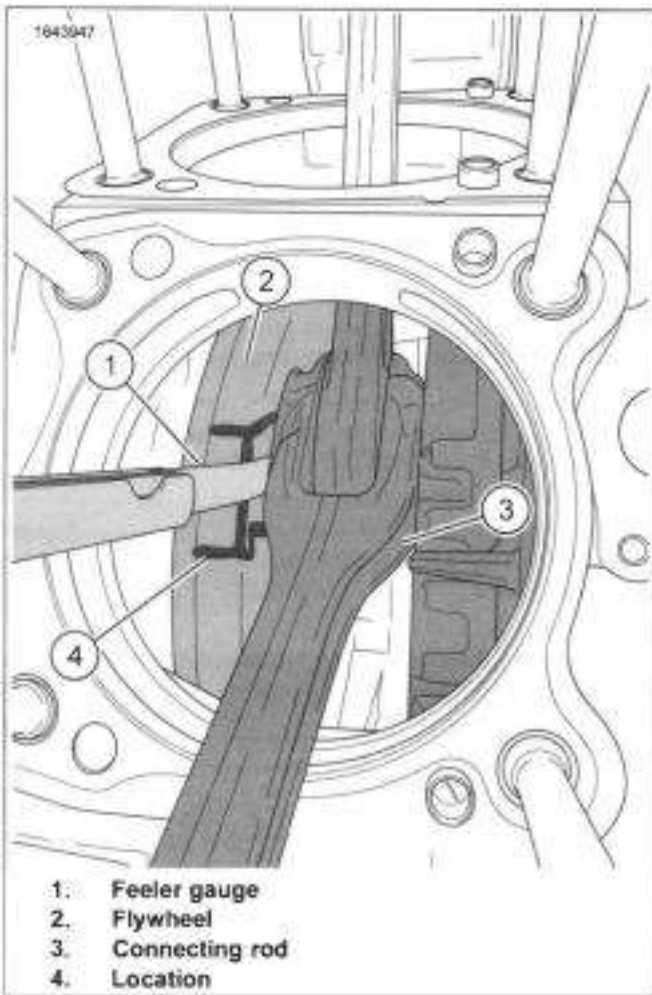

Figure 4-78. Connecting Rod Side Play
- a. See Figure 4-78. Position connecting rod (3) as shown.
- b. Measure connecting rod side play using a feeler gauge (1) at location (4) shown.